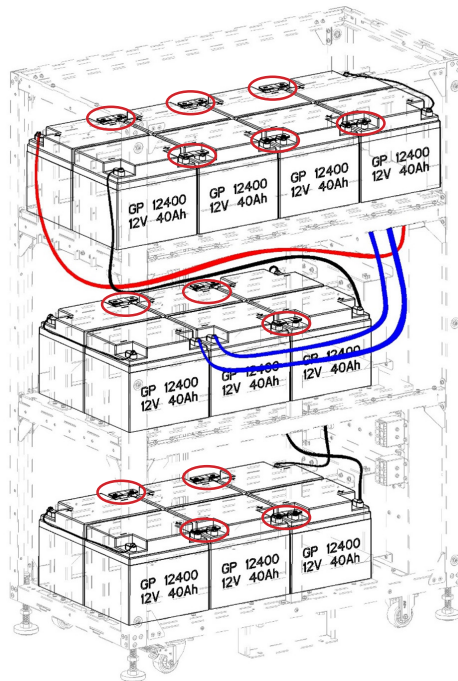

Figure 5-41A
11. Connect the cables from battery 1+ to BAT+ bus bar, battery 10- to BATN bus bar, battery 11+ to BATN bus bar, battery 20- to BAT- bus bar and the layer connect cables (Figures 5-41A and 5-41B).